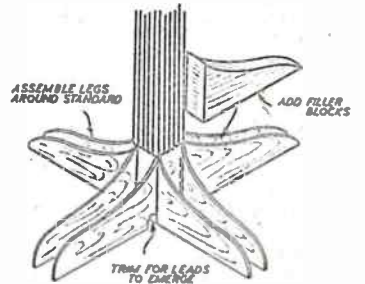

Fig. 6
carriage—Fig. 6—is bolted to a piece of $\frac{1}{2}$ in. ply and then cemented in the fuselage immediately under the tank. Pack with scrap balsa, if necessary.
A simple metal sight can be fitted to one arm of the fork, as shown. This sight is bent at 45 degrees (Fig. 6) and screwed to the side of the fork. When the sight is vertical the catapult is at the right angle and the two notches in the sight can be used to line up the target. (352)
can be cleaned up and smoothed down flush by glasspapering once completed—Fig. 6. A small channel is cut to let the leads emerge.